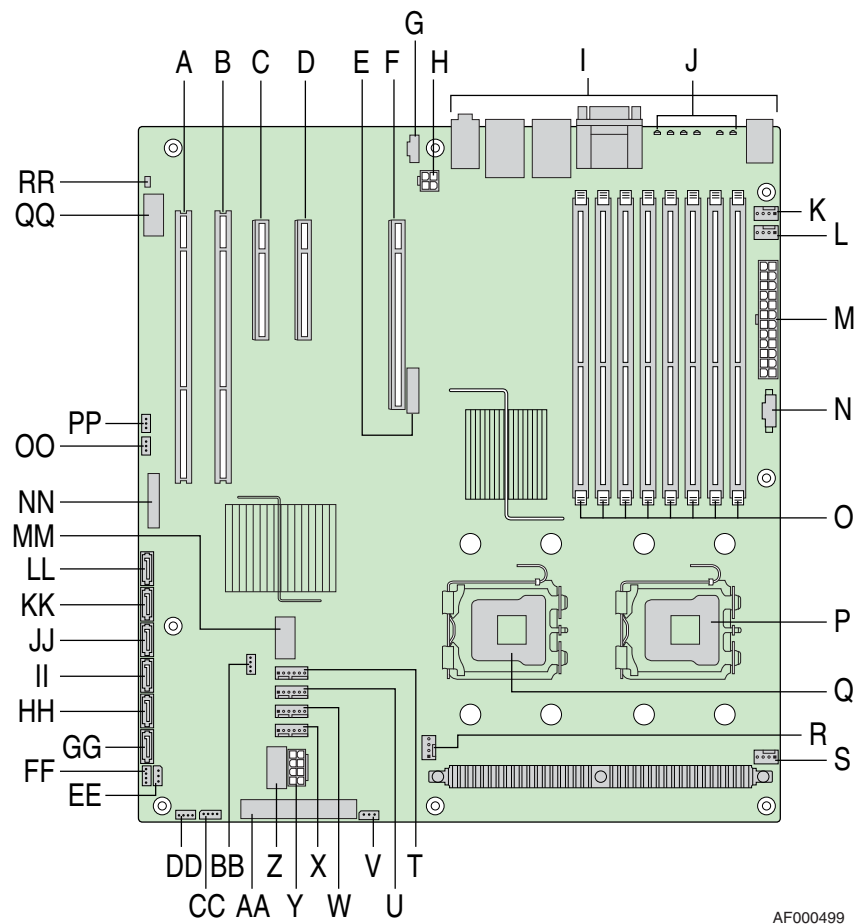

Figure 2. Intel® Workstation Board S5000XVN Layout
**Note:** The Front Panel Connector is identified by “NN” in Figure 2.
The connections from a Chenbro\* chassis to the board are listed in the following table. The letters under the server board column correspond to the letters identified in Figure 2 for the server board and the pin numbers correspond to those defined in Table 4.